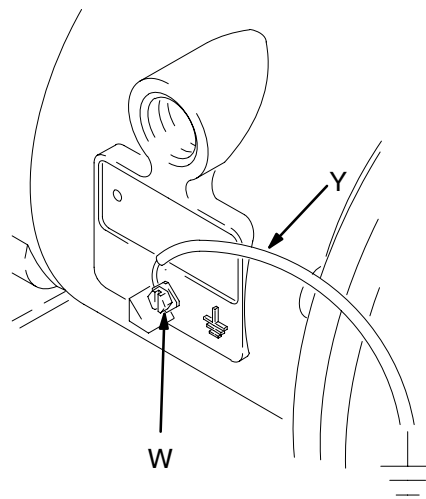

Fig. 1
Polypropylene and PVDF are **not** conductive. Attaching the ground wire to the grounding lug grounds only the air motor. When pumping conductive flammable fluids, **always** ground the entire fluid system by making sure the fluid has an electrical path to a true earth ground. See Fig. 1.
- **Pump:** Connect a ground wire and clamp as shown in Fig. 1. Loosen the grounding screw (W). Insert one end of a 12 ga (1.5 mm²) minimum ground wire (Y) behind the grounding screw and tighten the screw securely. Connect the clamp end of the ground wire to a true earth ground. Order Part No. 237569 Ground Wire and Clamp.